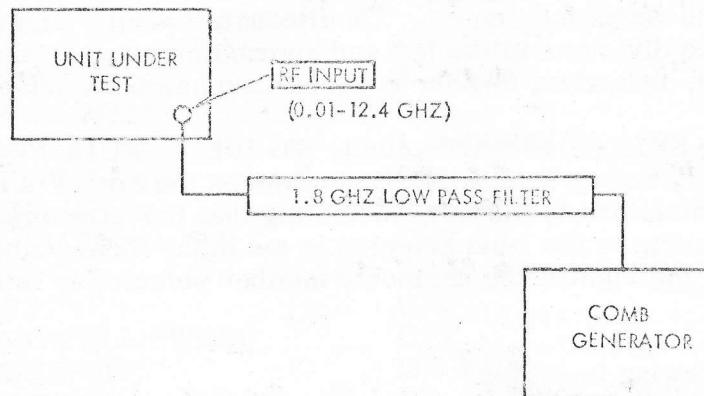

Figure 6-1. Performance Checks with Comb Generator
- (b) Connect comb generator (1, table 6-2) and 1.8 GHz low pass filter (2, table 6-2) to RF INPUT as shown in figure 6-1. Set comb generator for 100 MHz, full amplitude.
- (1) Connect comb generator (1, table 6-2) and low pass filter (2, table 6-2) to RF INPUT as shown in figure 6-1. Select 100 MHz signal and adjust amplitude to full on.
- (2) Adjust FREQUENCY TUNE control to center zero beat signal on screen, and position outside scale of control to align zero with index mark on knob.
- (3) Advance FREQUENCY TUNE control from 0.2 to 1.8 GHz in 200 MHz increments (exactly one turn) and observe translation of markers to the left. Record frequency error of the respective marker as indicated on display.
- (4) Frequency error shall not exceed  $\pm 2 \text{ MHz} \pm 1\%$  of dial reading) ~~at~~  $\pm 5 \text{ MHz}$  at each position (see record form).
- (1) Connect comb generator (1, table 6-2) as shown in figure 6-1. Set for 100 MHz, adjust level for full on.
- (2) Decrease SCANWIDTH/DIV setting to 1 KHz/DIV, using FINE TUNE control to keep signal centered on screen.
- (3) Check the frequency scale for peak deviation of the trace between sweeps. Peak deviation shall not exceed 150 Hz (0.15 division on frequency scale).